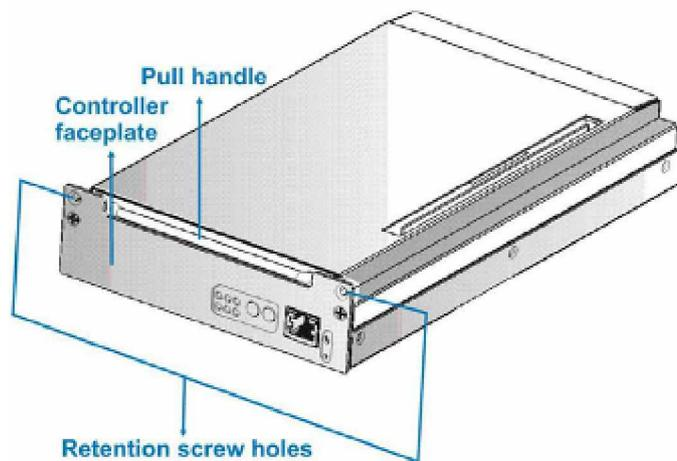

Figure 1-12: RAID Controller Module
The RAID controller module that came with your controller head has a metal cover that protects all delicate components including a main circuit board. The DDR RAM DIMM socket is placed on the side of the controller board. A pull handle is strategically located on the front side for retrieving the controller out of the chassis. The controller is secured to the chassis by two (2) retention screws. (See **Figure 1-12**)